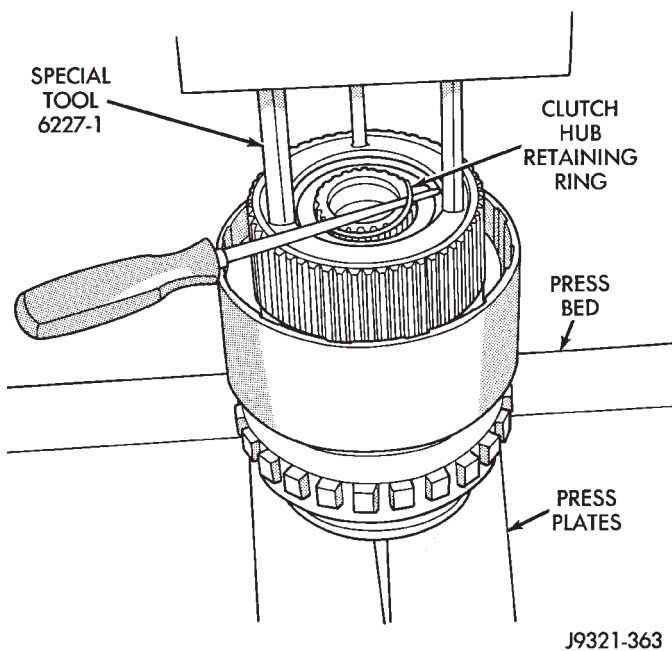

Fig. 264 Direct Clutch Hub Retaining Ring Removal
(6) Remove direct clutch hub retaining ring (Fig. 264).